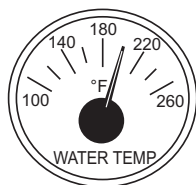

Figure 14. Coolant Temperature Gauge
10. The **coolant temperature gauge** (Figure 14) will indicate the coolant temperature. Under normal operating conditions the coolant temperature should be approximately 180°F (82°C).